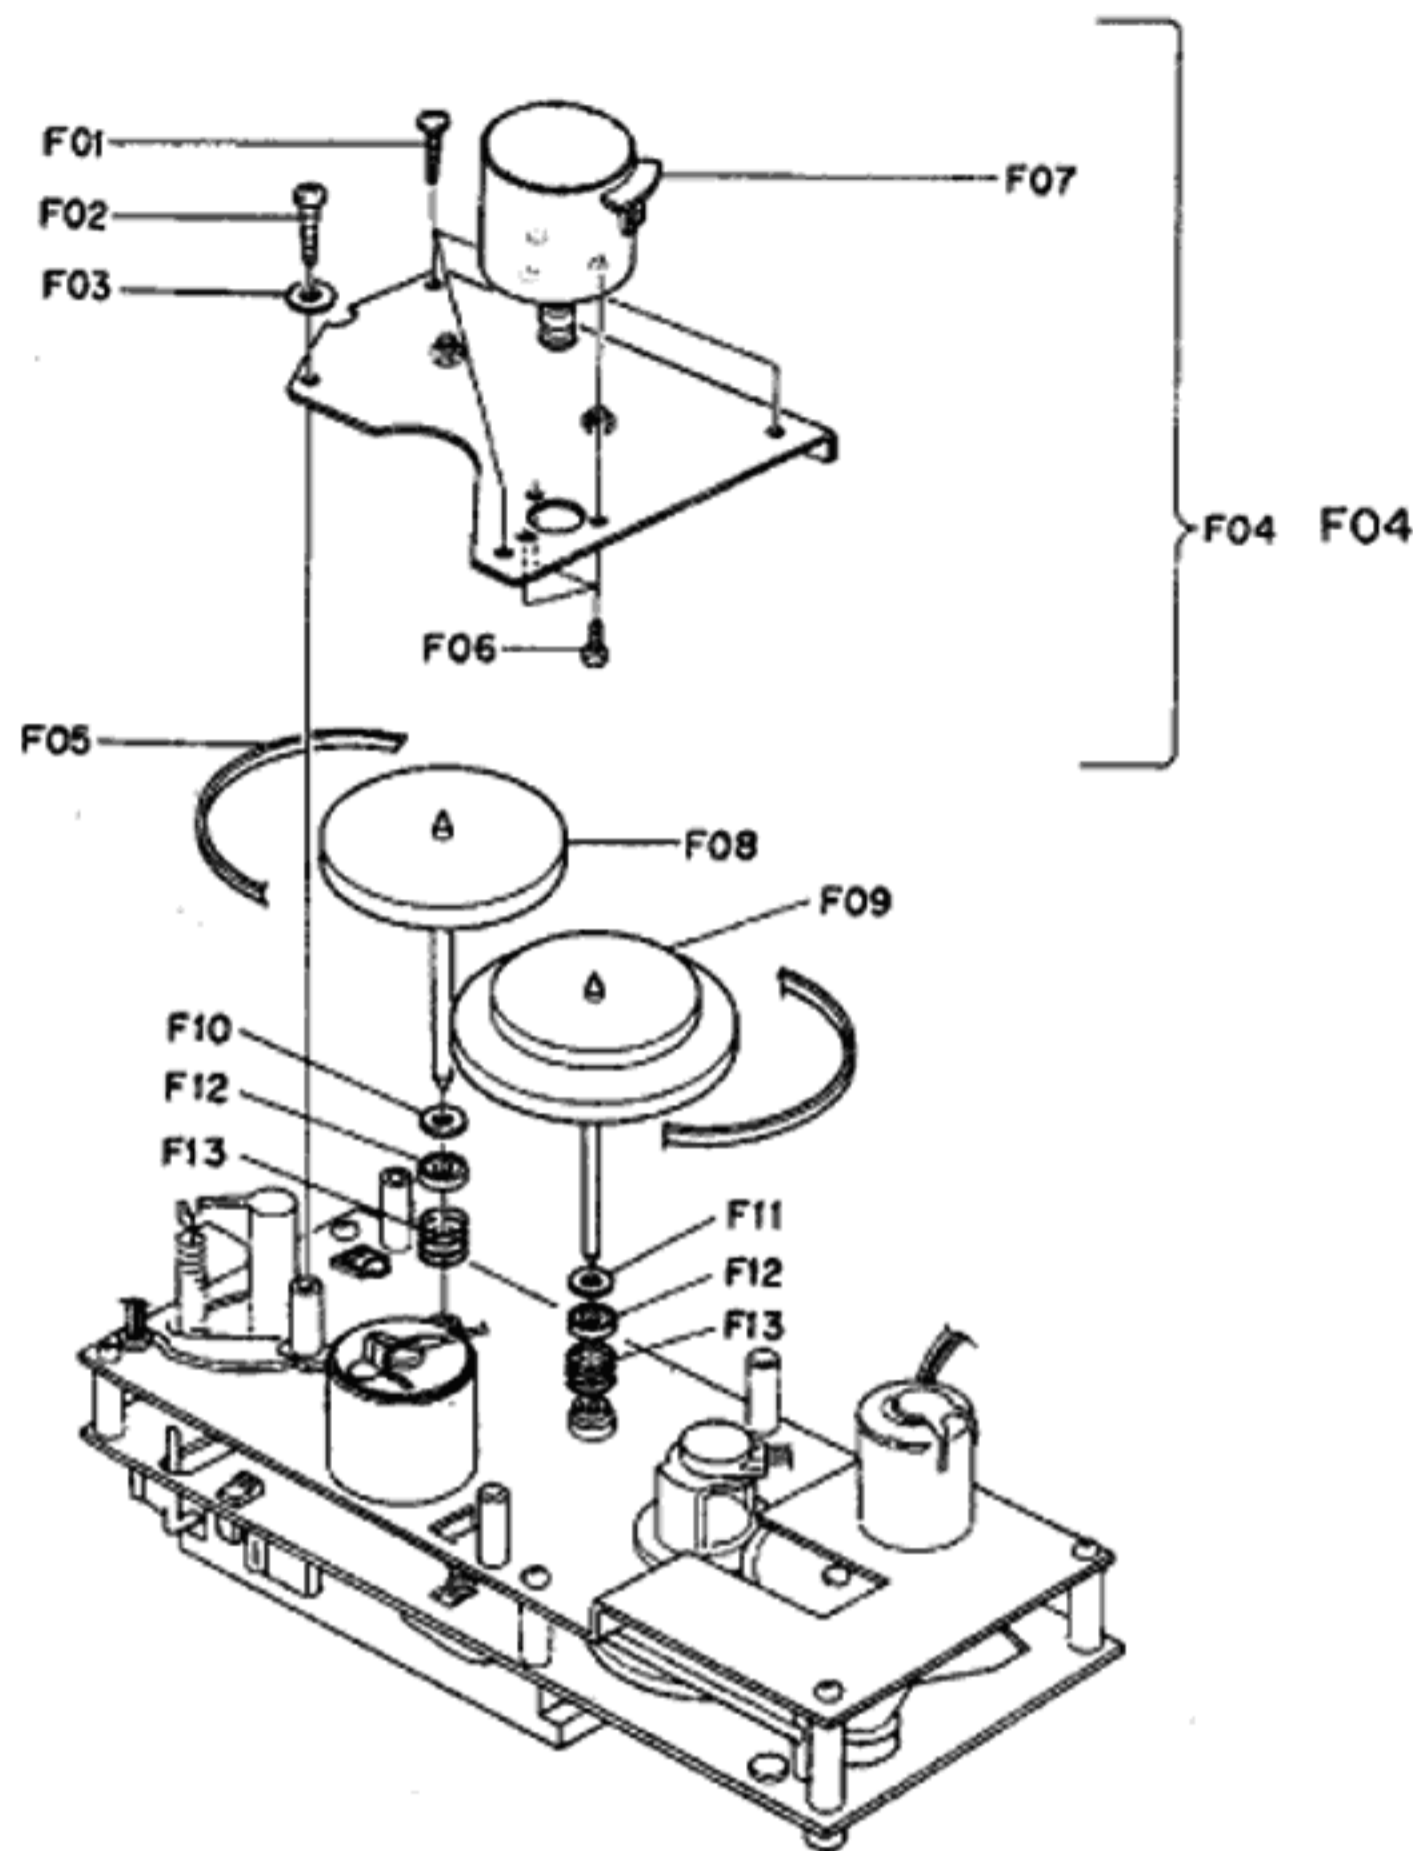

Fig. 2.8
Refer to Fig. 2.8.
- (1) Refer to Fig. 2.8. Remove Flywheel Holder Ass'y referring to item 2.18.
- (2) Remove F01, F02 and F03, then disassemble F04 (Sub Mechanism Chassis Ass'y).